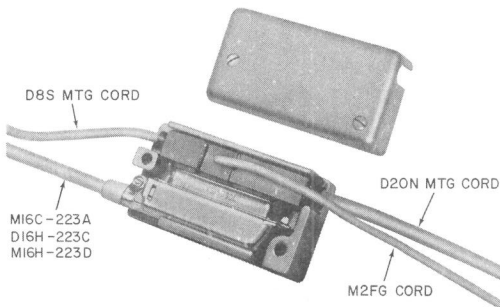

Fig. 6—223A (MD), 223C, or 223D Adapter
F. 223A (MD), 223C, or 223D Adapters
2.17 The 223-type adapter (Fig. 6) interconnects the 680-type transmitter, the 108-type loudspeaker set, the 85B1 power unit and certain